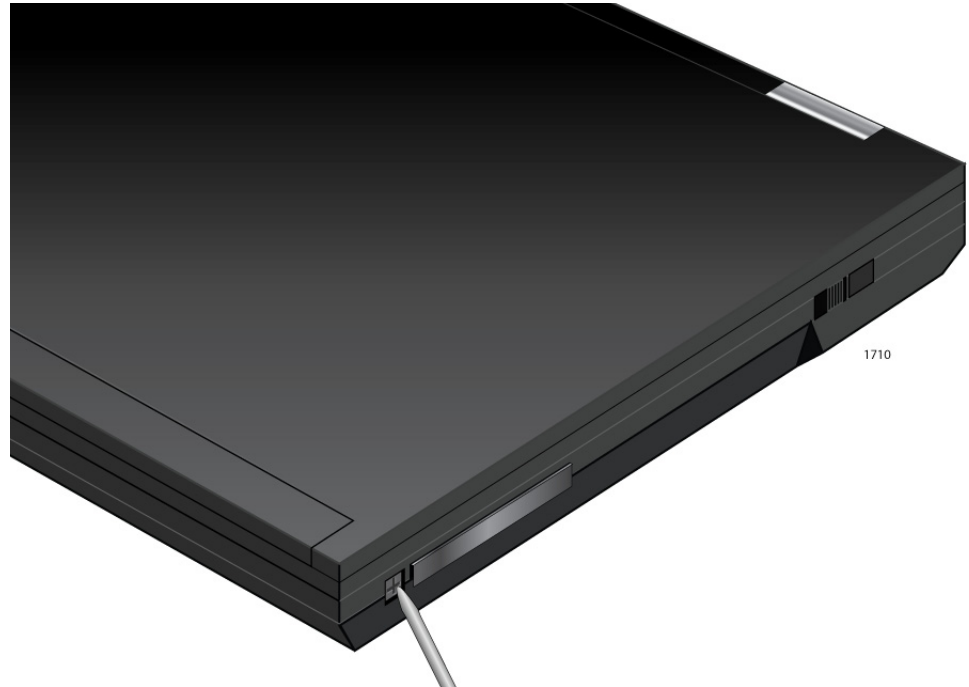

Figure 6. Pressing the Button
3. Use a pen and press the button toward the laptop and to the left. See Figure 6 on page 23.